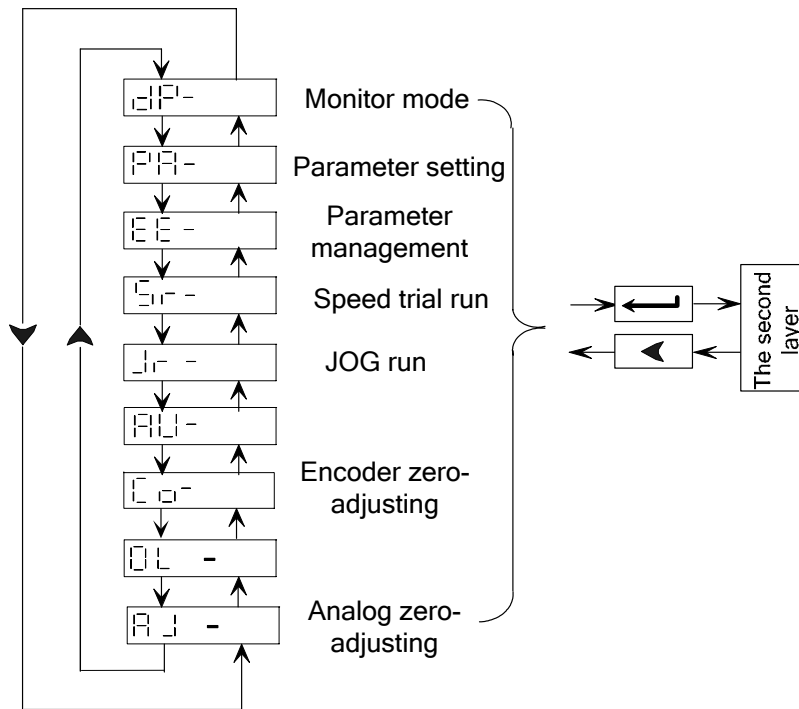

Fig. 5.1 Diagram block of main menu
- 2) The operation is performed according to multi-layer menus. The first layer is the main menu that consists of 9 kinds of operation modes, the second layer is the function menus in various operation modes. The fig.5.1 shows the diagram block of the main menu: